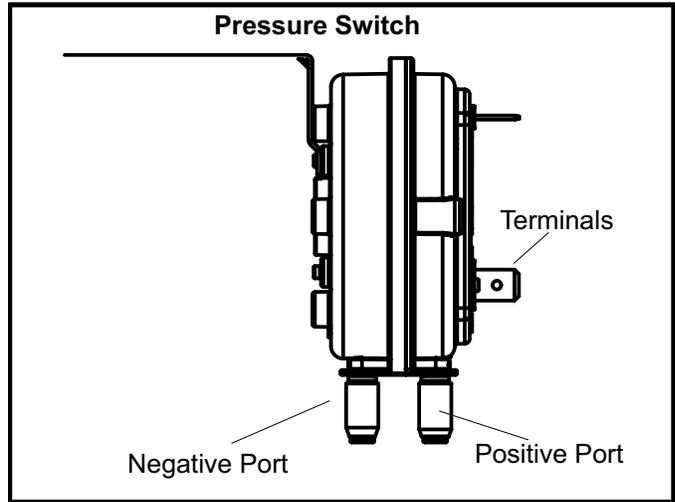

FIGURE 12
8. Combustion Air Pressure Switch (Figure 12)